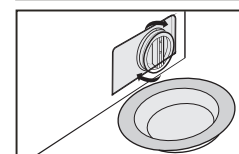

Fig 20
3. Reinstall each part back after sundries matters are removed (Fig20) .